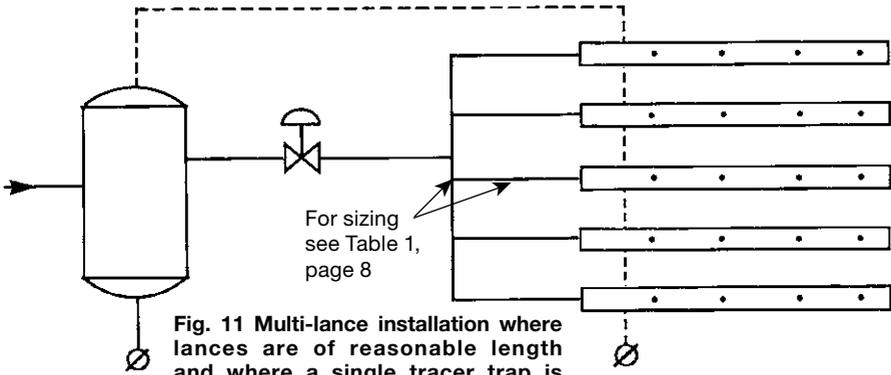

Fig. 11 Multi-lance installation where lances are of reasonable length and where a single tracer trap is appropriate.
- 3.3.8** Figures 11, 12 and 13, page 13, give recommendations for piping up the main steam supply, trapping arrangements and manifolding for a variety of multi-lance and vertical lance installations.